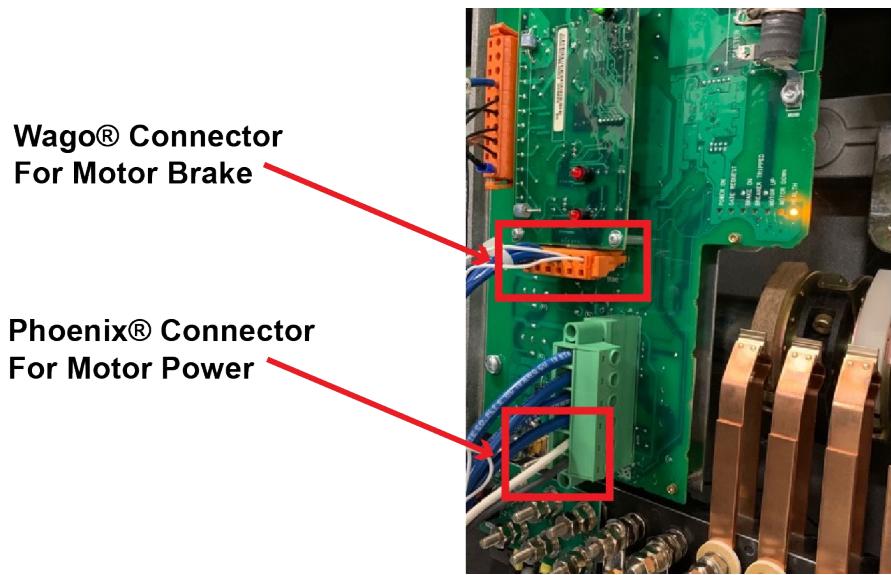

Figure 3 Connectors
2. Remove the bottom two wires from the Phoenix® connector to remove motor power (Figure 3).
3. Remove the right two wires from the Wago® connector to remove brake power. (Figure 3)